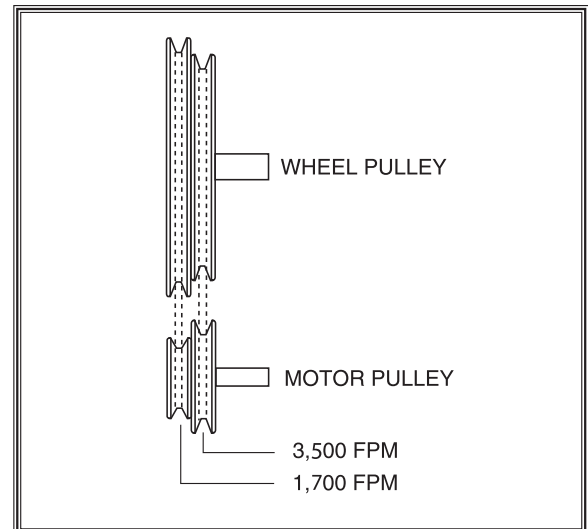

Figure 29. Feet Per Minute (FPM) pulley ratios.
The FPM pulley ratio diagram on **Figure 29** illustrates the belt positions necessary to produce the 1,700 and 3,500 FPM blade speeds select the proper pulley ratio for the cutting job and move the belt to the desired pulleys.
4. Move the belt to the required pulley ratio (see **Figure 29**).